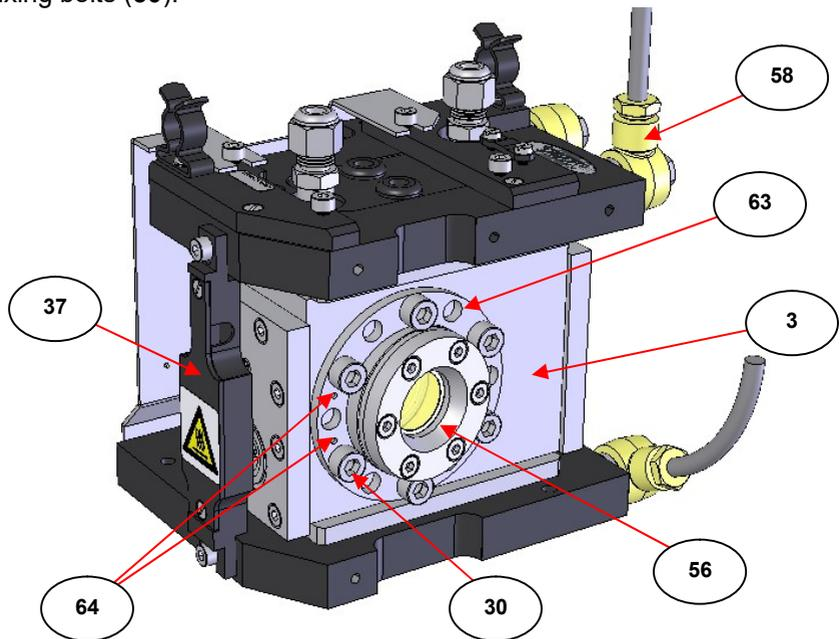

Fig 9. Wedged Window Assembly Fitted for Left to Right Beam Direction Reflectance Mode of Operation
Take the wedged window assembly (56) with its silicone O-ring (35) fitted in place around its flange plate (63) and orientate it to the HTHP Cell body (3) such that the thickest edge of the wedged window assembly (56) is to the left of the cell body (3) and the thinnest edge is to the right nearest the banjo fittings (58). Around the edge of the flange plate (63) of the wedged window assembly (56) there are **twelve** M6 size bolt location holes. At the thickest edge of the wedged window assembly (56) there are two indentation marks (64) either side of one of the twelve M6 bolt location holes on the flange plate (63). When this bolt location hole on the flange plate (63) and the indentation marks (64) are positioned as shown in **Fig 9**, six of the remaining eleven location bolt holes on the flange plate (63) align with their threaded hole location fittings on the HTHP Cell body (3) to clamp the wedged window assembly (56) in position using the six M6 x 10mm fixing bolts (30).
Note: *Fig 9.* shows the HTHP Cell with the internal heater block assembly (10) set up for the **decomposition** mode of operation. The position of the heater block assembly (10) and external wiring strap (37) as fitted to either end of the HTHP Cell does not affect any window removal or fitting.